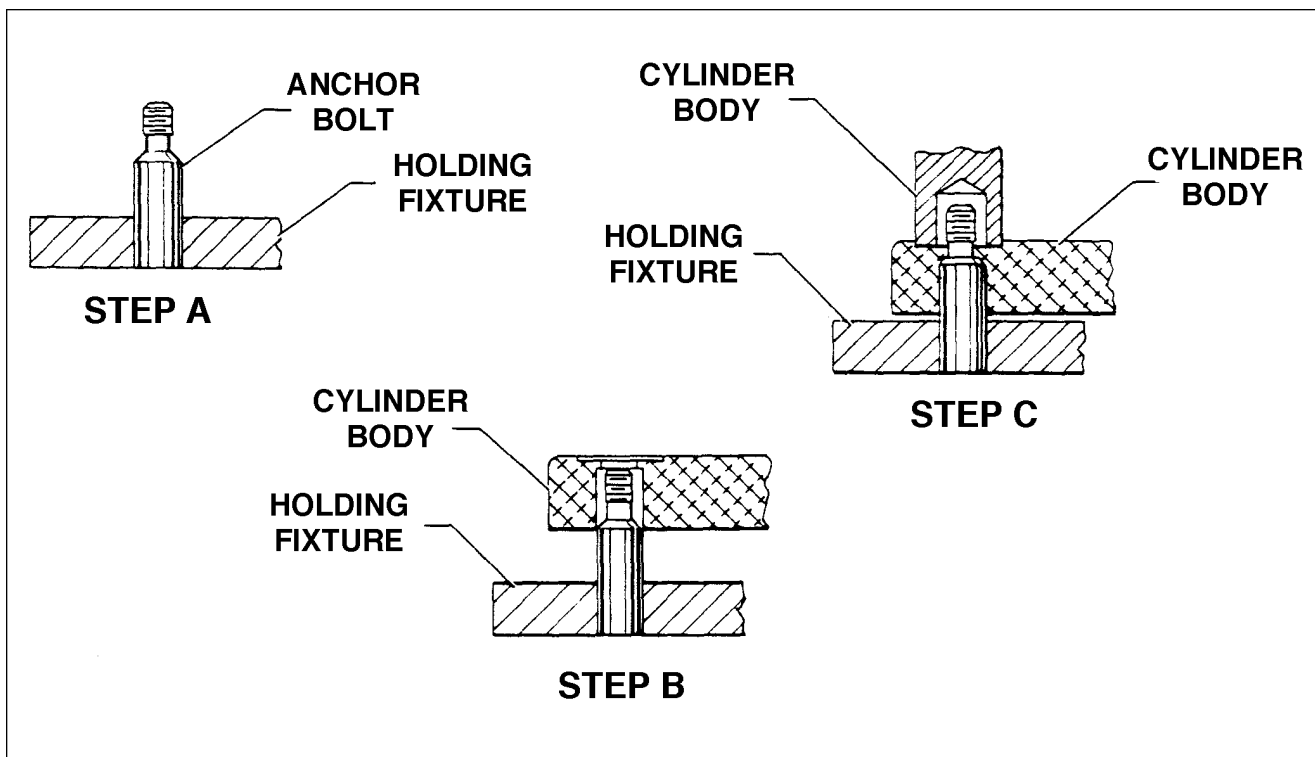

Figure 7-11. Installation of Anchor Bolt
1. Support Anchor Bolt in a holding fixture. (Refer to Figure 7-11, Step A).
2. Align cylinder body over anchor bolt. (Refer to Figure 7-11, Step B).
3. Use a suitable arbor press and apply pressure on the spot face directly over the anchor bolt hole. (Refer to Figure 7-11, Step C).